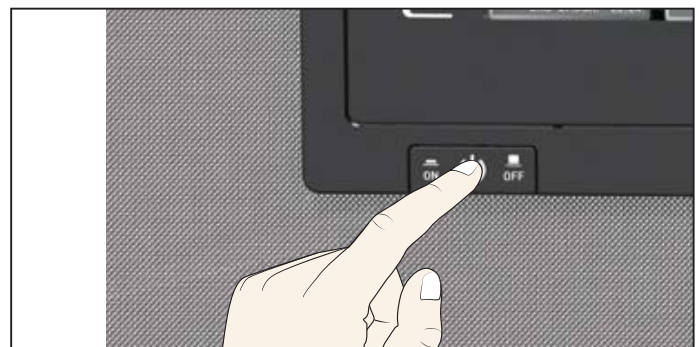

Fig. 20 Switch off appliance
3. Switch off the appliance (Fig. 20).